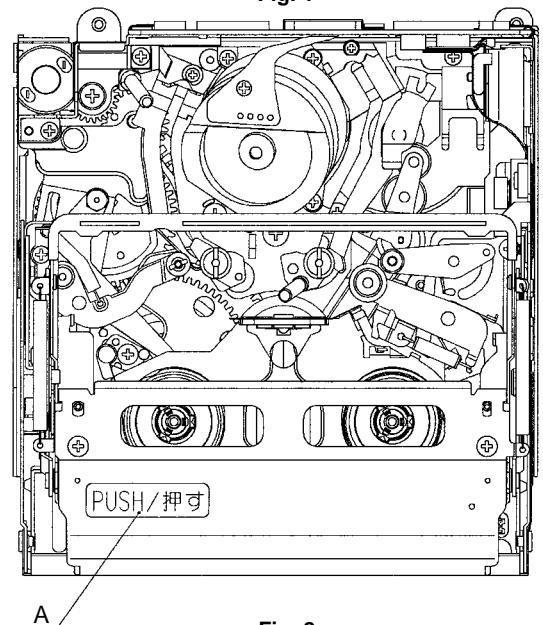

Fig. 2
- To install the cassette controller, push section A in the Fig. 2. Do not push anything else.